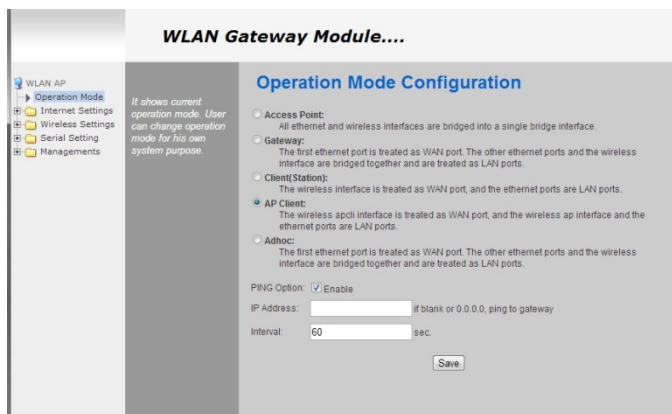

Figure 7.1 - AP Client mode installation
- 4) In **Operation Mode** menu tick off **AP Client** and push **Save** (View figure 7.1)